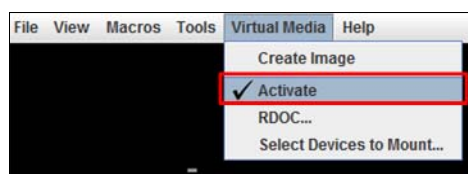

Figure 6-3 Virtual Media activating
4. To mount an image to the remote server as virtual media, you should ensure Activate is selected under the Virtual Media menu, as shown in Figure 6-3.